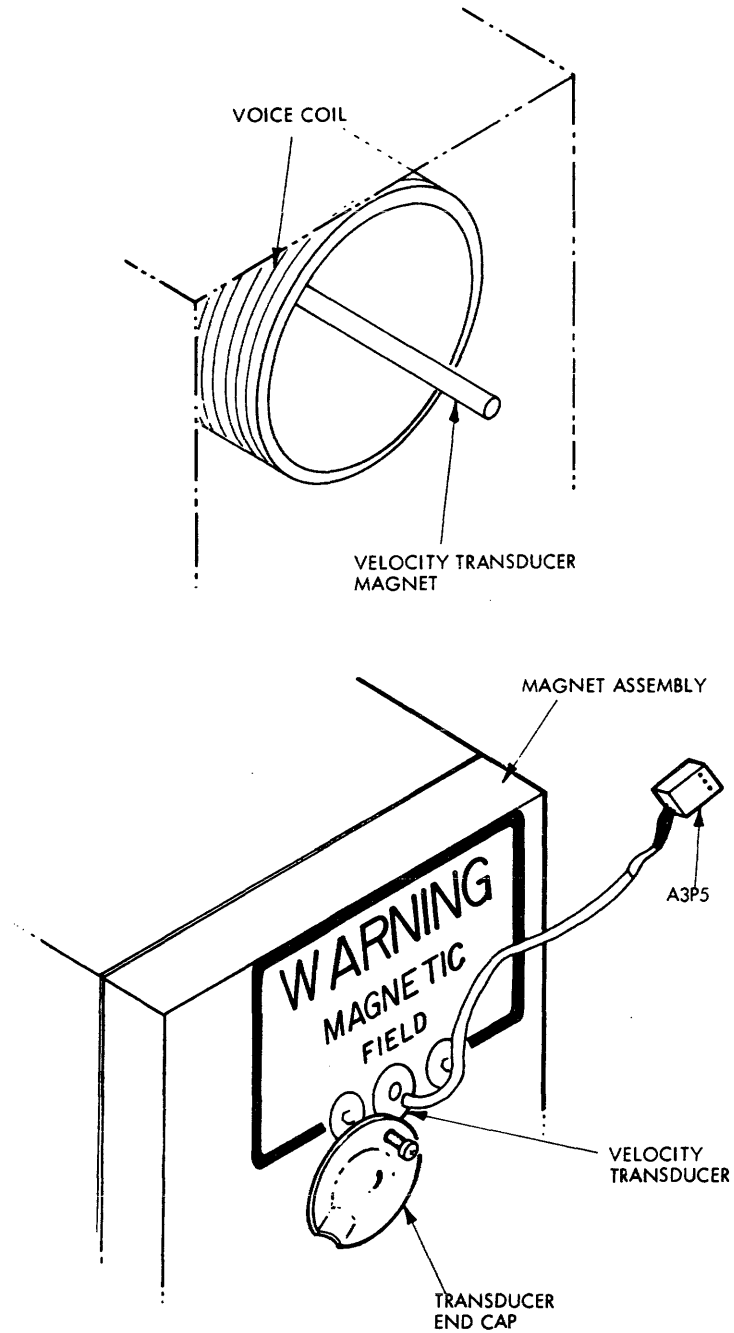

Figure 3-5. Velocity Transducer Location
12. Remove velocity transducer end cap and velocity transducer (see figure 3-5 and sheet 14 of figure 1-15).
8. Install velocity transducer and velocity transducer end cap (see figure 3-5).